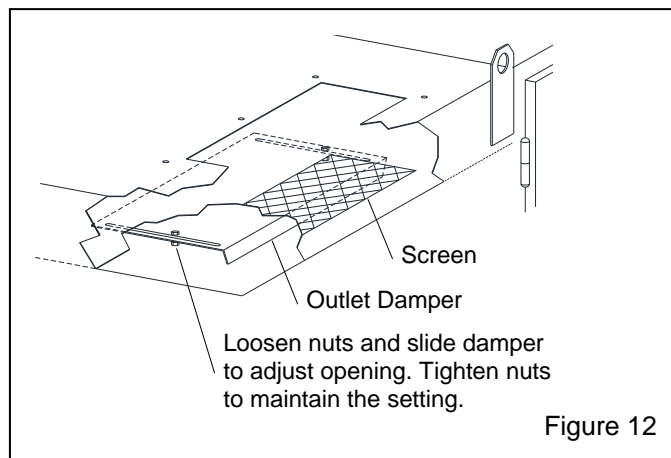

Figure 12
**5.4.2** Adjust static pressure by opening or closing the outlet damper located above the reclaimer on the underside of the underside of the power module, refer to Figure 12. If the damper is not opened far enough, the reclaimer will not remove fines, resulting in dusty media, poor visibility, or will not convey media, causing media build-up in the hose between the cabinet hopper and reclaimer. If the damper is opened too far, it may cause carry-over (usable media carried into the dust collector) and result in excessive media consumption. Open only as far as necessary to obtain a balance of maximum dust removal without media carryover.